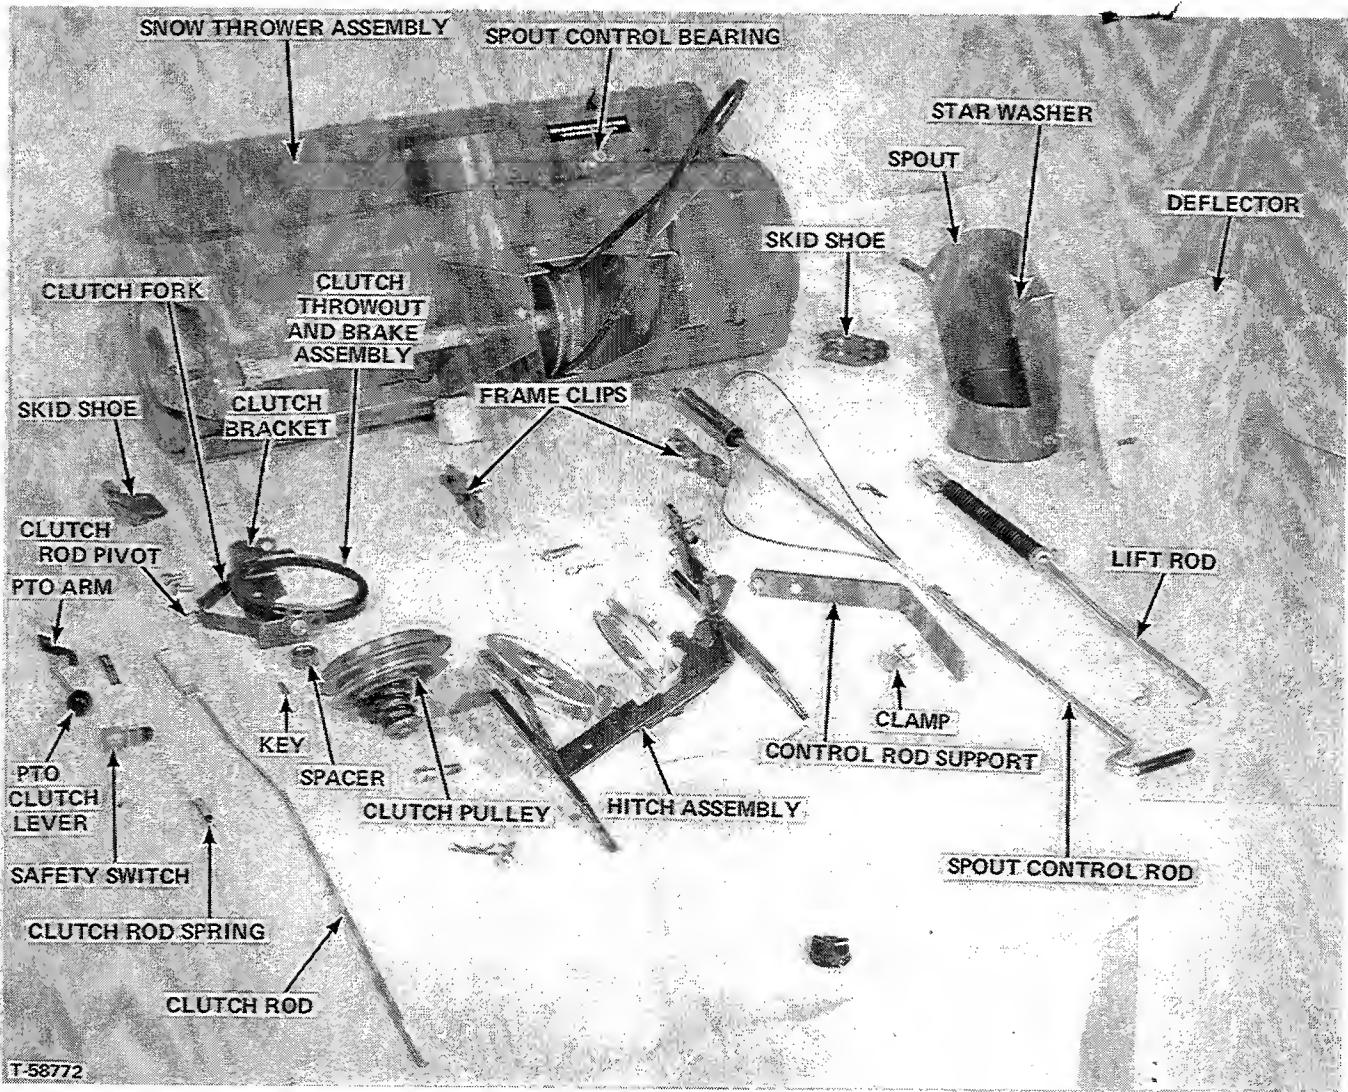

FIGURE 13
Figure 13 shows parts and subassemblies approximately as shipped and laid out for assembly.
1. The clutch bracket, clutch fork, and clutch throwout and brake assembly may not be assembled or may be assembled differently than shown in Figure 13. In any event proceed as follows:
- B. Place the clutch fork inside the ends of the clutch bracket and bolt the inner holes of the fork to the inner holes of the bracket with a hex head-bolt installed from the inside, a spacer in the holes in fork and bracket and a flat washer and locknut on the outside at each leg of the bracket as shown in Figure 13.
4. Remove PTO arm from the PTO clutch lever and install lever through hole in tractor frame (Figures 13, 14 and 15). Place PTO arm on squared shoulder shank of PTO clutch lever on the inside of the tractor frame in such position that when lever is held in a straight up vertical position, the arm is also pointing upward but at about a 30° angle toward the rear. Install locknut and tighten securely. (See Figure 15)
Refer to Figure 13 for parts approximately as shipped.